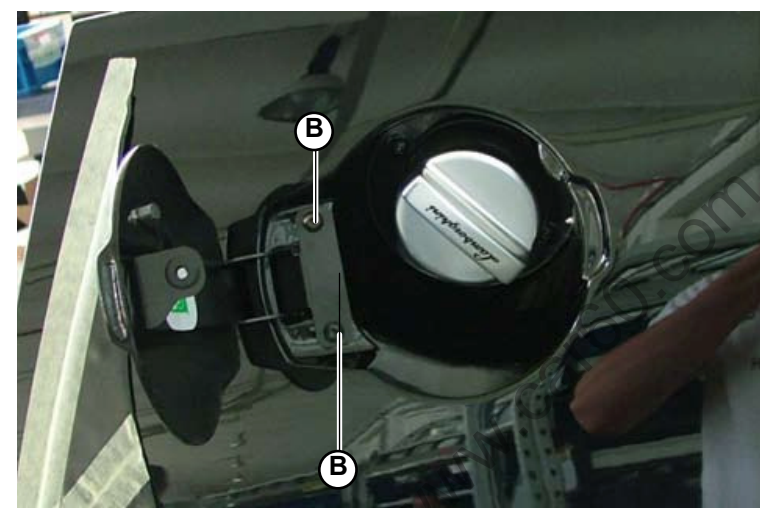

Fig.6
2. To disassemble the flap, unscrew the 2 screws (B-Fig.6).